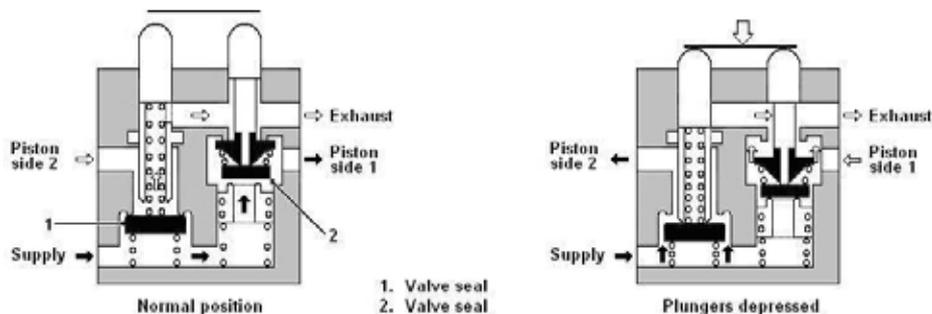

Figure 42 Planetary-Gear Set, 4/2 Valve
90. **Planetary-gear-set Shift-valve.** This valve is a four-way, two-position valve (4/2 valve) used to control a double-acting piston. Figure 42 illustrates a typical four-way, two-position valve, which operates as follows: